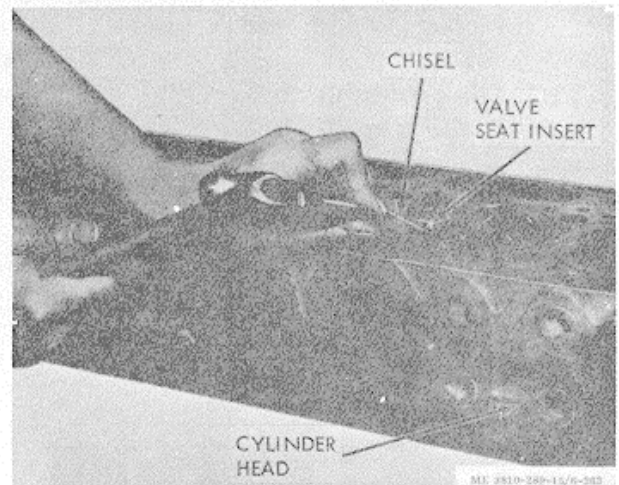

Figure 3-254. Valve seat insert removal
b. *Removal.* Remove loose or excessively worn valve seat inserts, which were previously marked for replacement during cylinder head inspection, with an insert extracting tool or by striking insert sharply with a chisel, causing it to crack and release the press fit. Remove all inserts if head has been resurfaced (fig. 3-254).